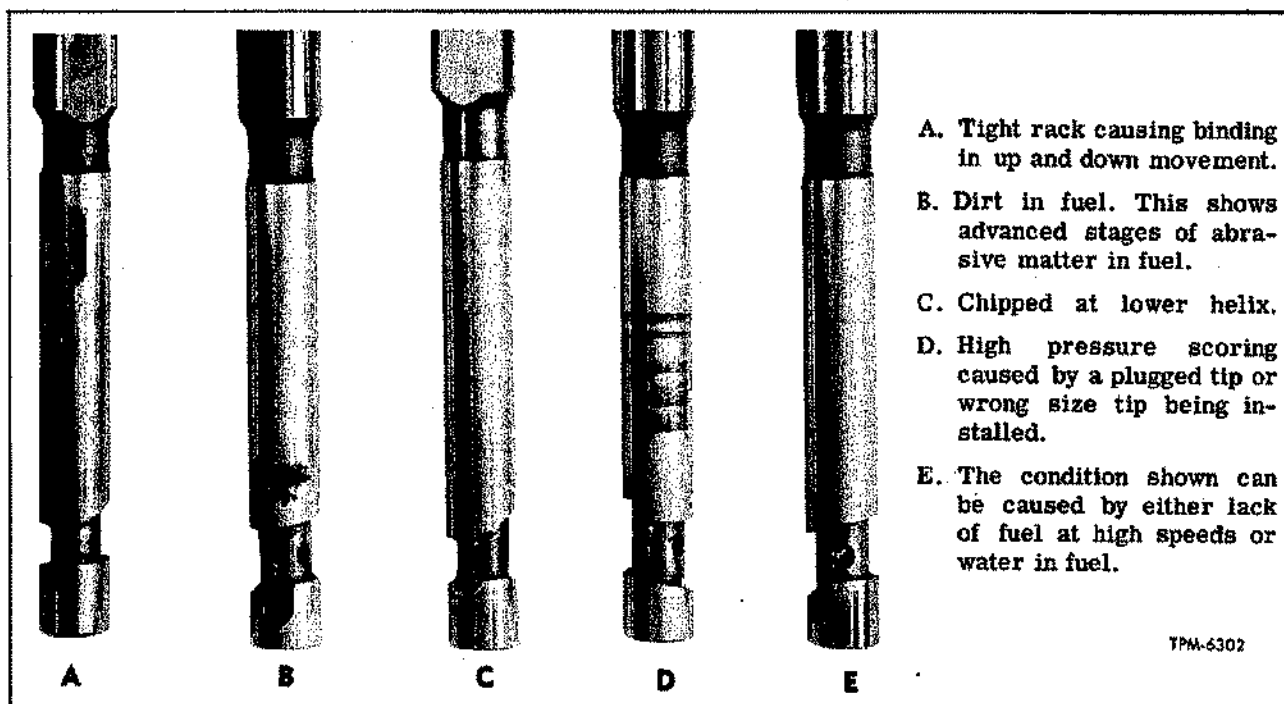

Figure 14—Damaged and Unusable Plungers
4. Inspect plunger and, if chipped, the plunger and bushing should be replaced after fuel output check is performed. Figure 14 illustrates unusable plungers.
5. Inspect injector plunger for scoring, erosion, chipping or wear at helix (fig. 14). Check for sharp edges on that portion of plunger which rides in gear. These sharp edges may be removed with a 500 grit stone. Wash plunger after stoning. Inspect plunger bushing for cracks or chipping. Slip plunger straight into bushing and check for free movement. Badly worn, chipped, or scored plunger and/or bushing must be replaced. Plungers and bushings are mated parts and must be replaced as an assembly.